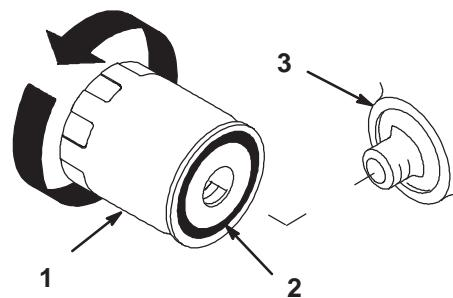

Figure 43
2. Remove the old filter and wipe the filter adapter (Fig. 43) gasket surface.
4. Apply a thin coat of new oil to the rubber gasket on the replacement filter (Fig. 43).
5. Install the replacement oil filter to the filter adapter. Turn the oil filter clockwise until the rubber gasket contacts the filter adapter, then tighten the filter an additional 1/2 turn (Fig. 43).